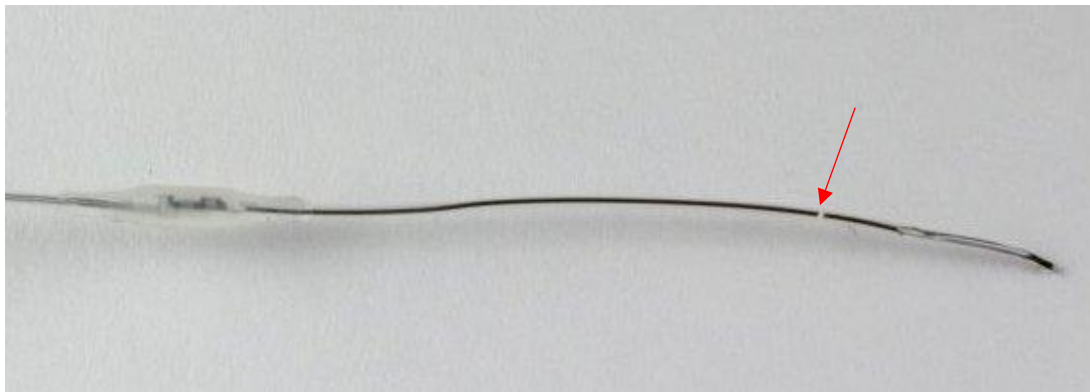

Figure 6: White marker band on sensor
- ii. If your total insertion depth was 12 mm and the white marker band was located at 12 mm, then the sensor would be advanced until the marker band is even with the bifurcation suture. (See Figure 6)